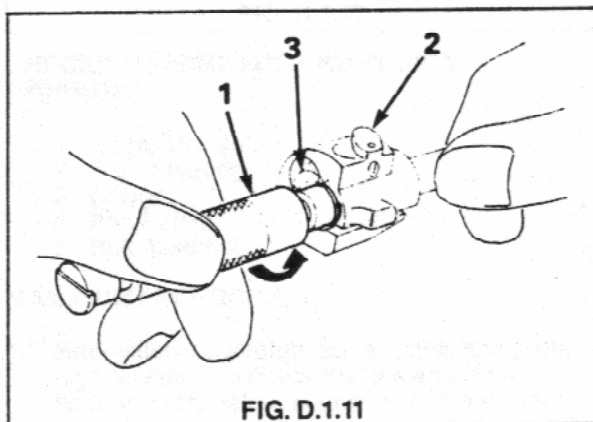

FIG. D.1.11
12. Position the Accept gauge end 1,545 mm of the plug gauge squarely onto the bolt face and rotate the gauge between the bolt face and the underside face of the extractor lip. If the gauge cannot be rotated the reason must be investigated and the cause rectified. See Fig. D.1.11